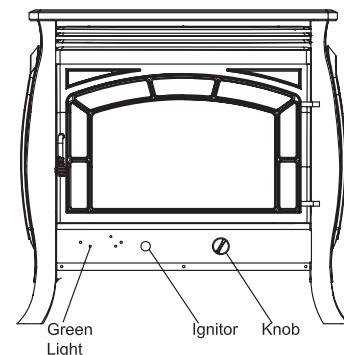
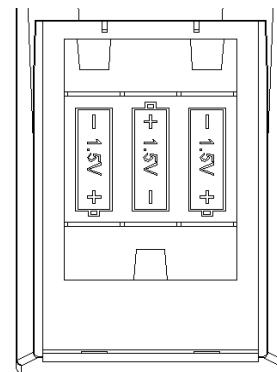

Figure 18 - Manual ON/OFF Button Location (With access panel removed)
Figure 21 - Back of Remote Control
**Note:** If operating by remote control, you must set the Control Knob on ELECTRIC. (See Figure 18) Do not set the control knob between locked position, otherwise there will be no power to the heater.
4. Wait five (5) minutes to clear out any gas. Then smell for gas around heater including near floor. If you smell gas, **STOP!** Follow "B" in the safety information above. If you don't smell gas, go to the next step.
5. Plug into a properly grounded three-prong receptacle, and install three AAA batteries in remote. A high pitch sound will occur and colored light on front of heater will be lit.(Figure 21)